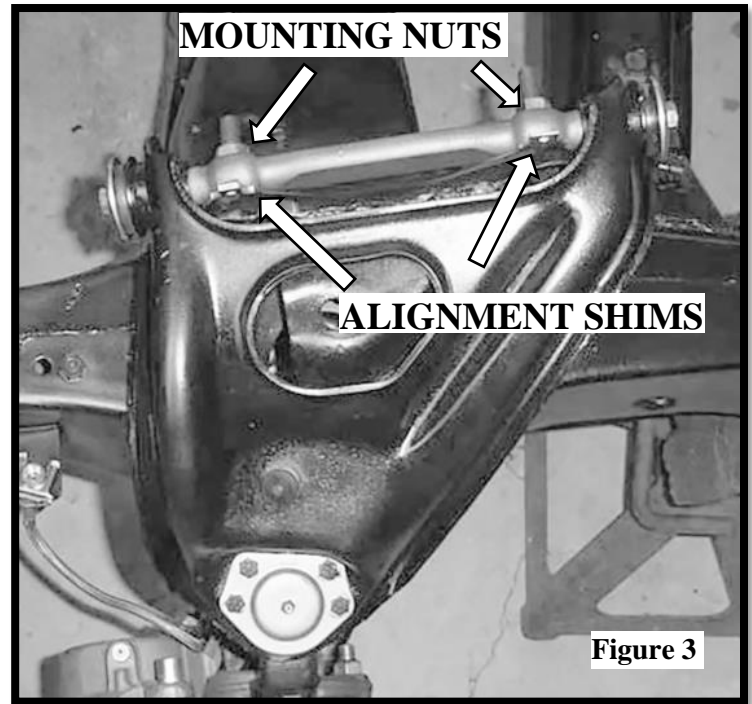

Figure 3
7. Note the position of the shims on the cross shaft of the upper control arm. **(Figure 3)**
8. Remove the nuts on the cross-shaft and remove the upper control arm from the car. **(Figure 3)**